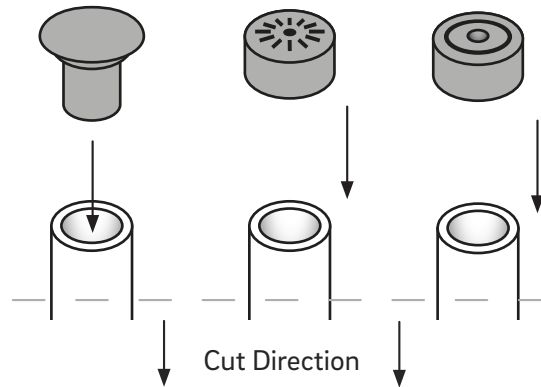

Figure 11
1. Remove the fountainhead nozzle from the tube (Figure 11).